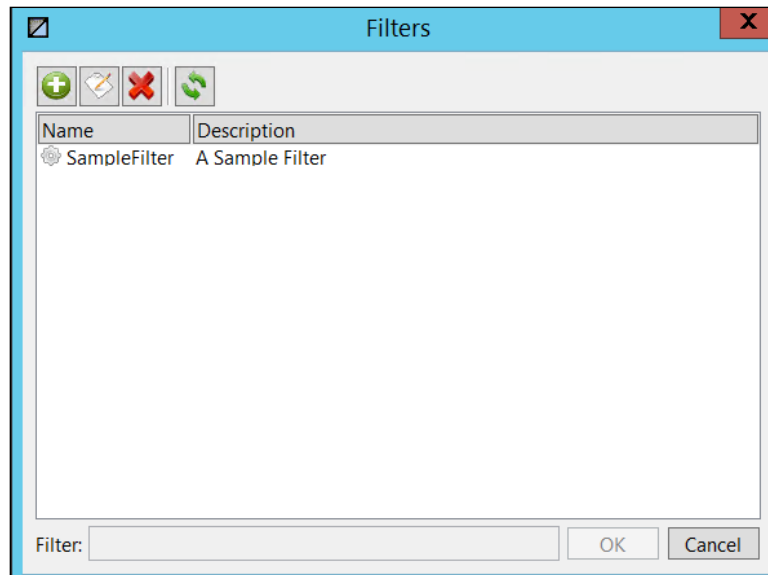

Figure 4-139. Filters Dialog Box
3. Click **Save** to save/create your filter. It is now listed on the *Filters* dialog box (Figure 4-139) and can be selected for future use.